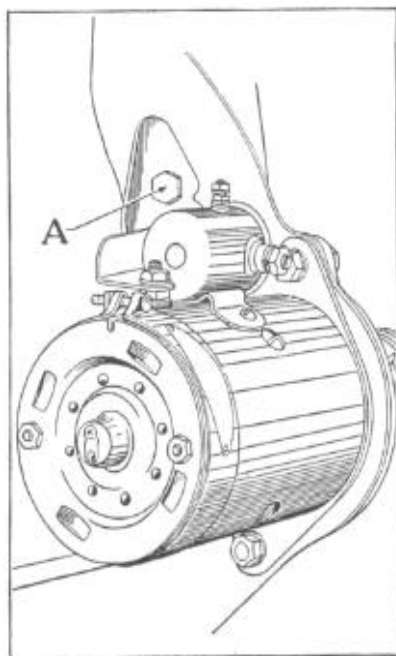

Figure 7
To insert the Hudsonite, turn the engine until the drain plug (A), Figure 7, in the front face of the flywheel is visible through the timing inspection hole in the left side of the rear engine plate.